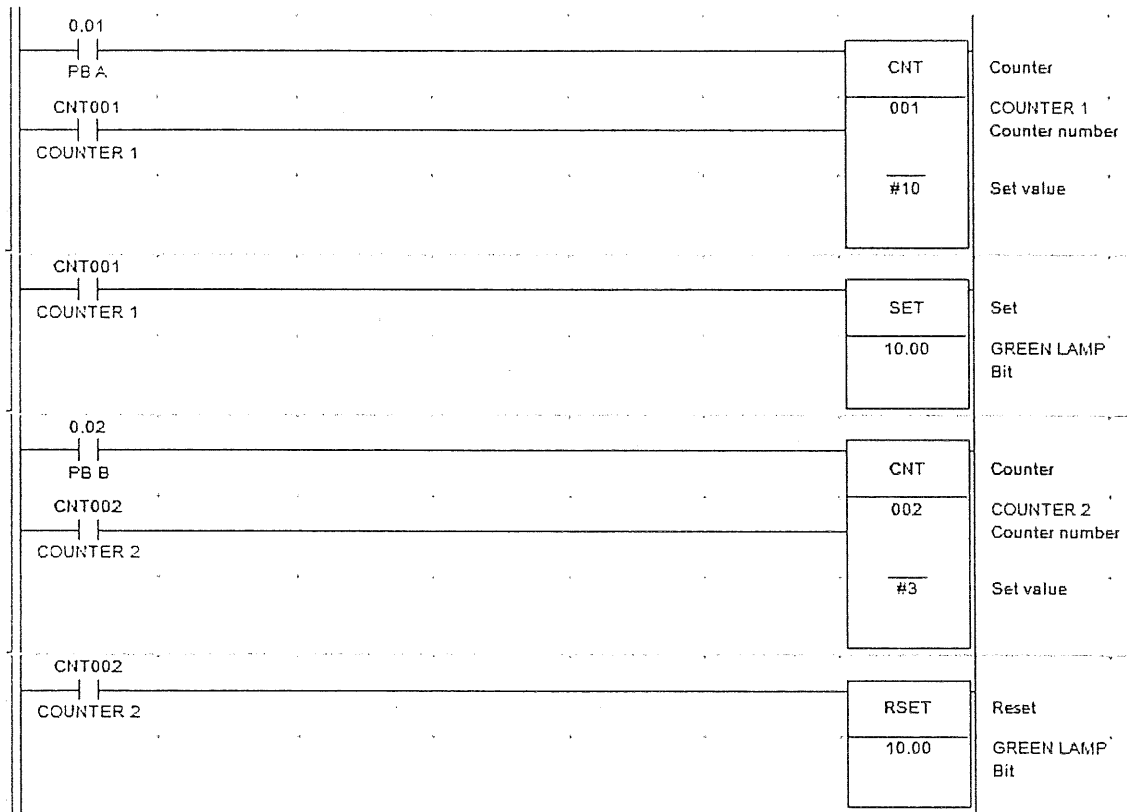

Figure 3
- b) Refer to the ladder diagram program in Figure 3. Describe the operation of the ladder diagram.